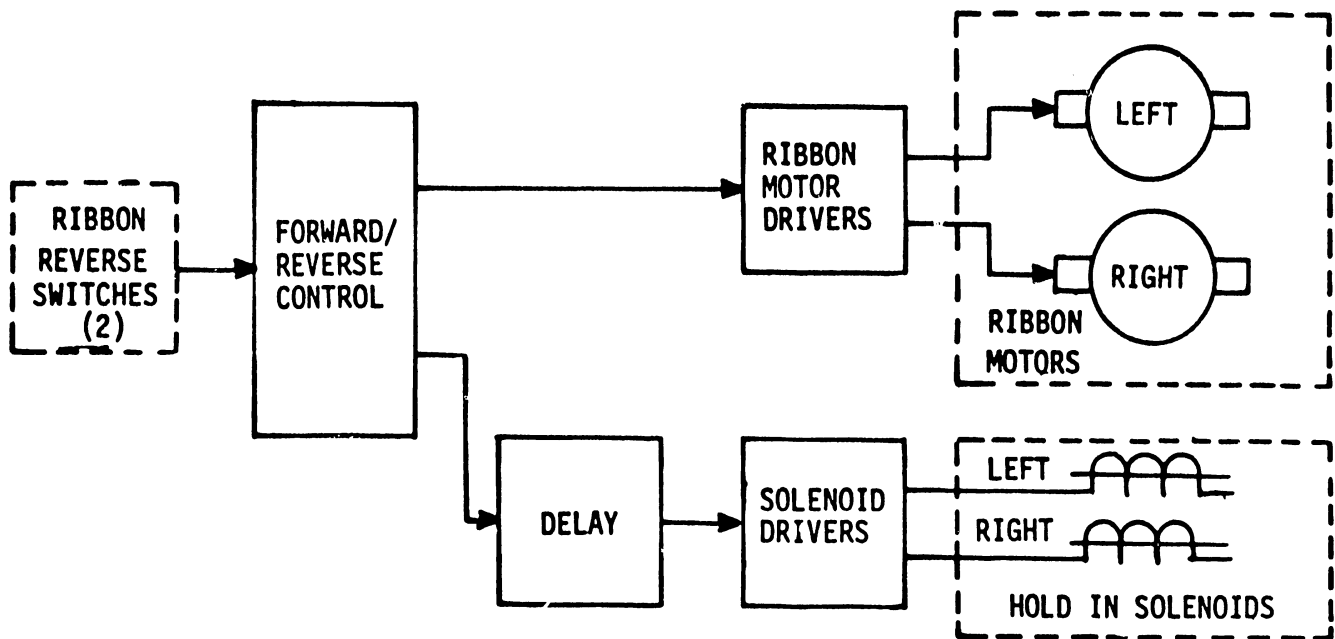

FIGURE 4-2 RIBBON DRIVE MOTOR CONTROL
4.2.3 RIBBON MOVEMENT (Figure 4-2)